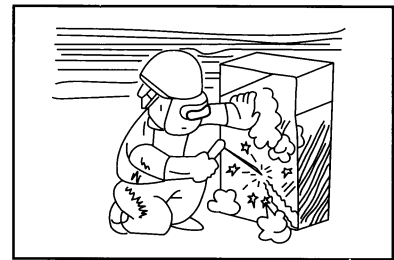

Figure 2-16
- The ventilation of the welding place should be well prepared. (Figure 2-16)